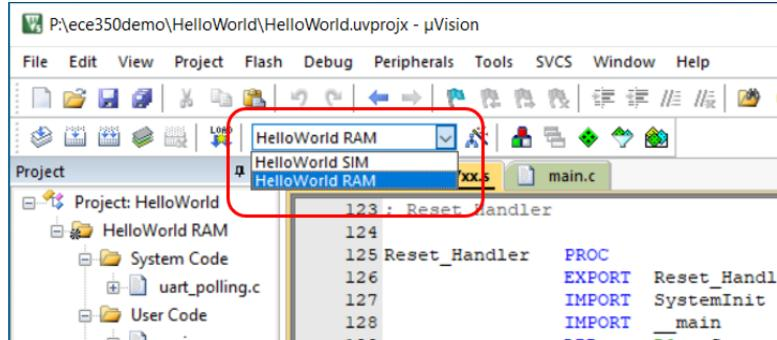

Figure 8.26: Keil IDE: Select HelloWorld RAM Target. Configure in-memory code execution as shown in Figure 8.27.
3. Switch your target to the newly created RAM target (See Figure 8.26).